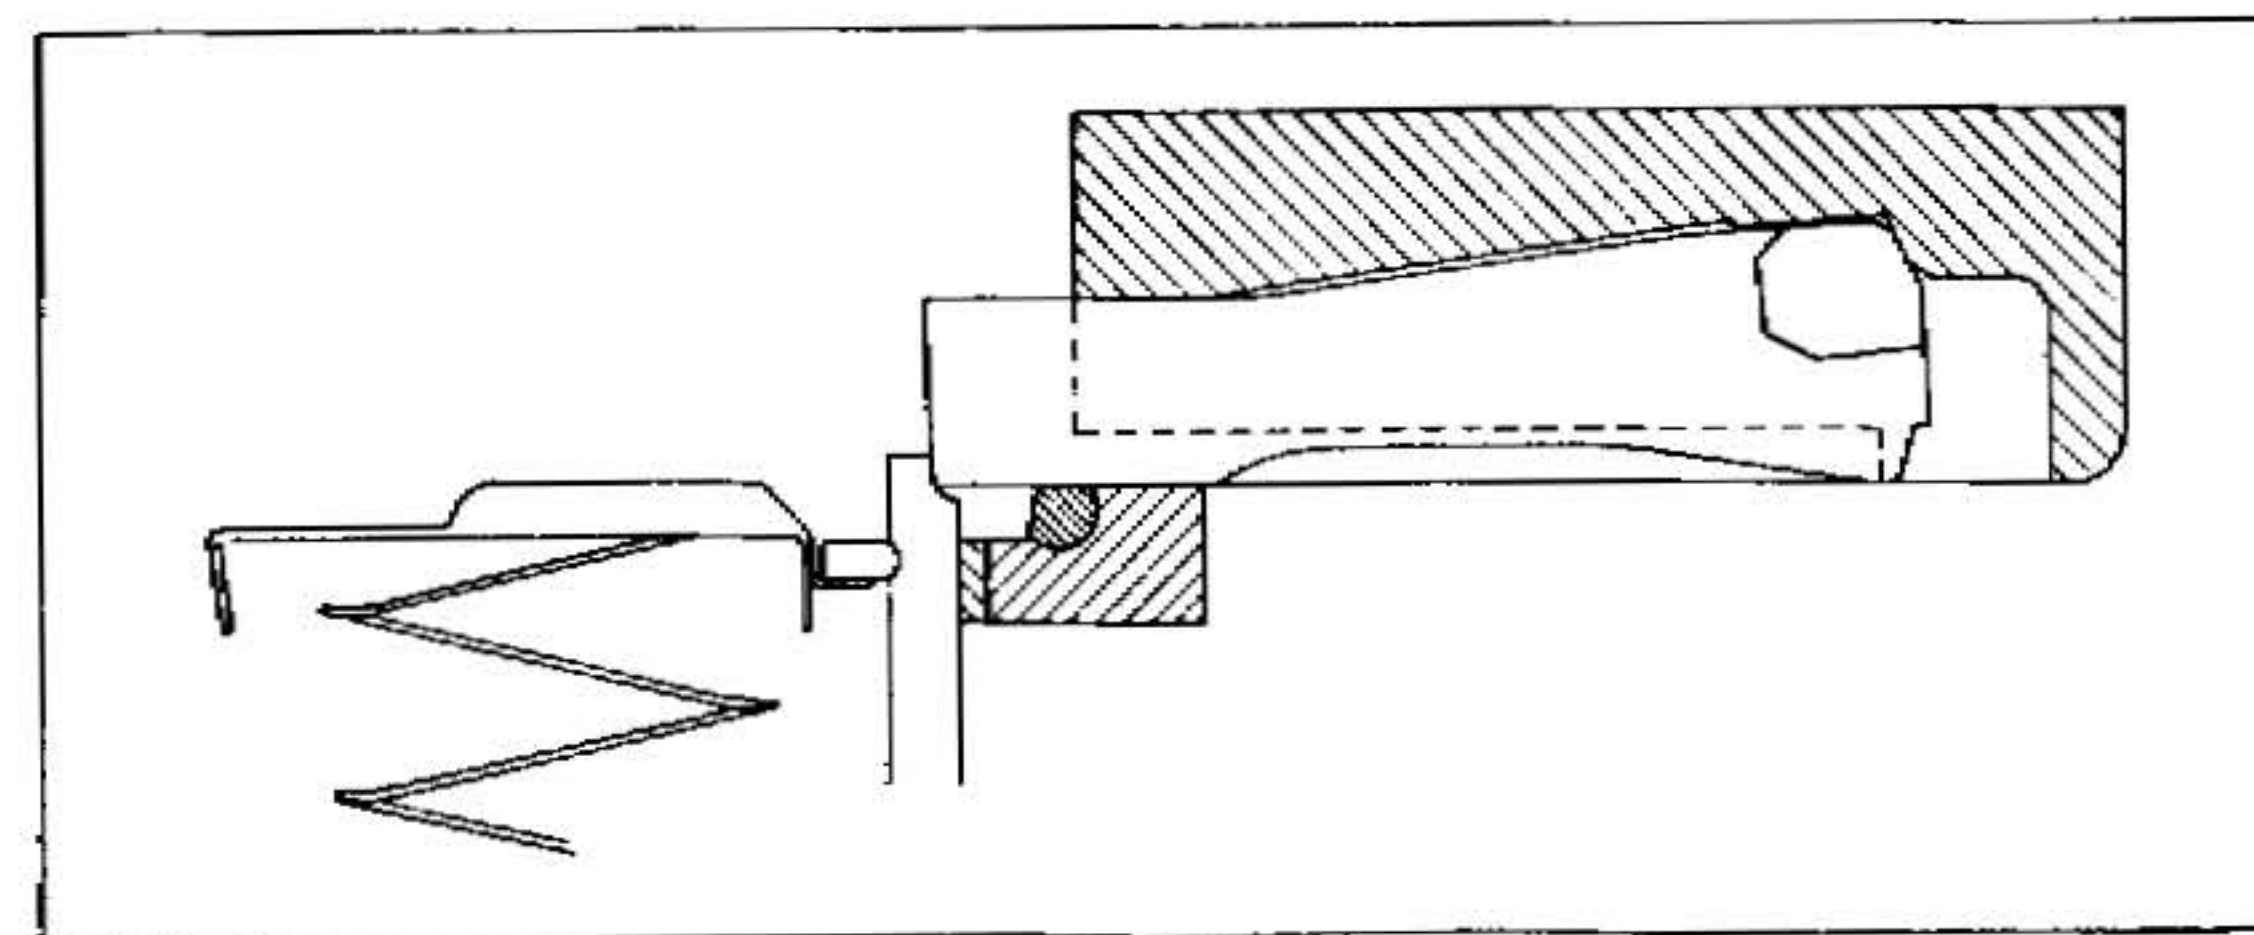

Fig. 13
- After recoil of the moving parts, the platform rises under action of the magazine spring and raises the holding open device (fig. 13) until it moves up into the body and checks the forward movement of the working parts.
Operation 2. Screw the gas regulator sleeve forward click by click and fire a round after each adjustment, until the holding open device engages the mechanism (fig. 13).